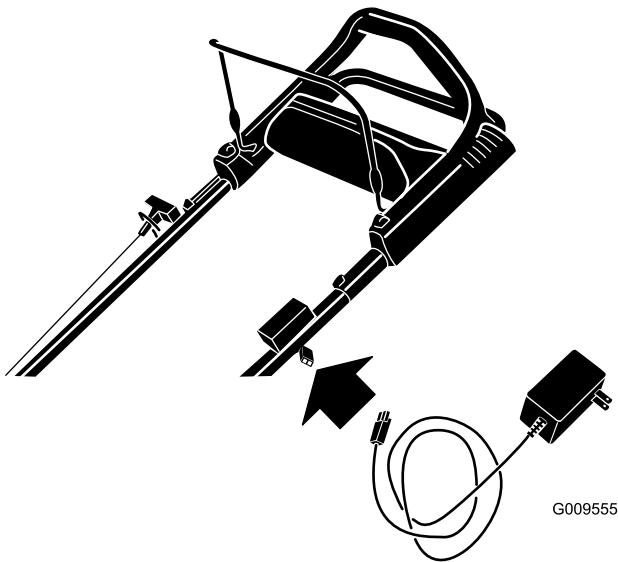

Figure 26
1. Connect the charger to the mower wire harness located below the ignition key (Figure 26).